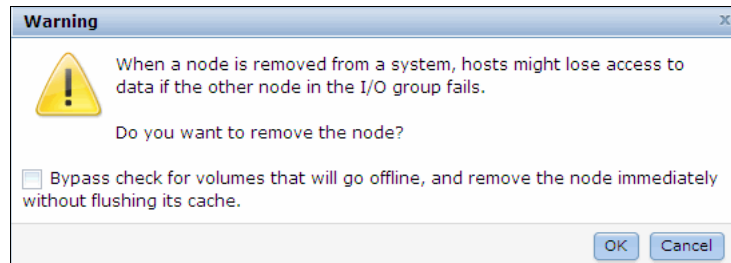

Figure 9-34 Remove node warning message
4. A warning message is displayed, as shown in Figure 9-34.